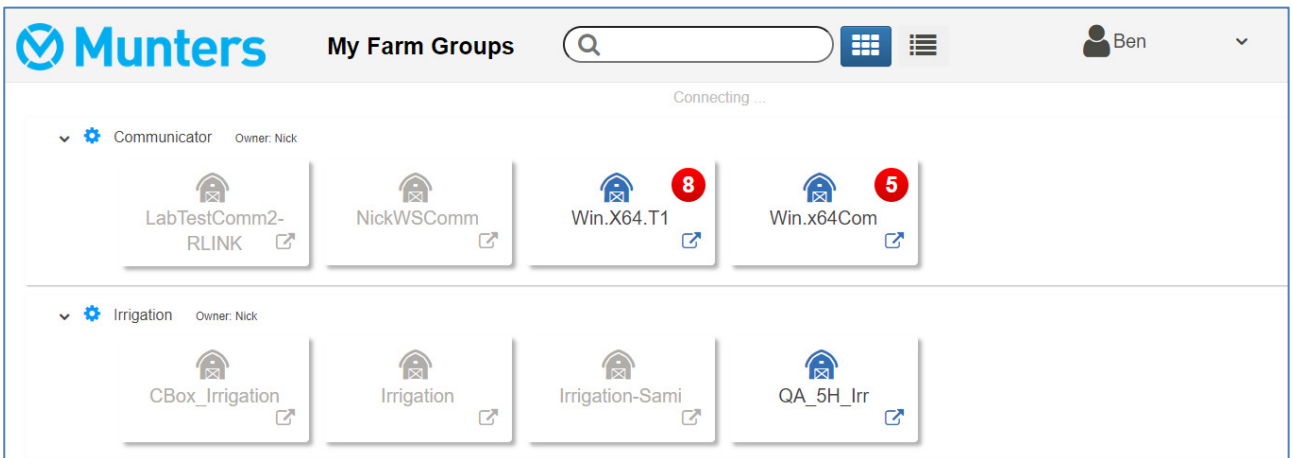
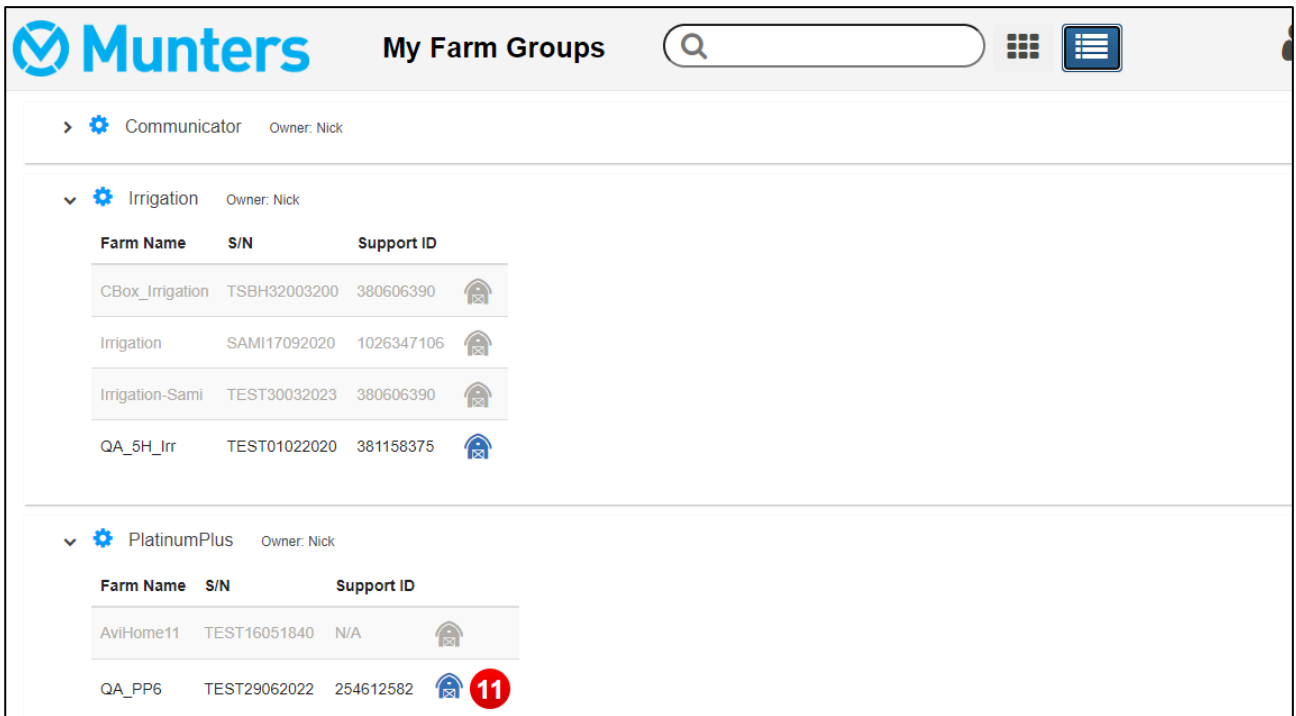

Figure 43: Grid View
Figure 44: List View
- Farms can be displayed in a grid (Figure 43, click ) or in a list (Figure 44, click )